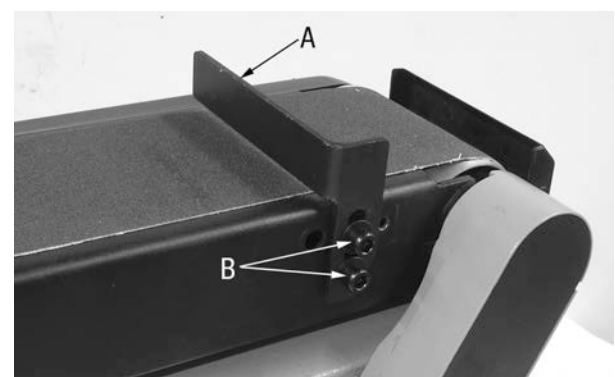

Figure 6
1. Locate backstop (A) Fig.6 and two cap screws and washers (B).
1. Remove backstop (A) Fig.6, cap screws and washers (B).